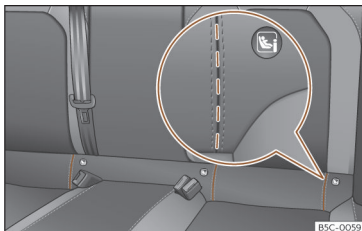

Fig. 31 Rear seat: die cut slots to access the ISOFIX / iSize securing rings.
rear seat backrest and the seat cushioning »» **Fig. 31**. The Top Tether rings are located on the rear part of the rear seat backrests (behind the backrest or in the luggage compartment)»» page 40 .
- Open the cut-out section behind the marked grooves to access the retaining rings >>> **Fig. 31**.